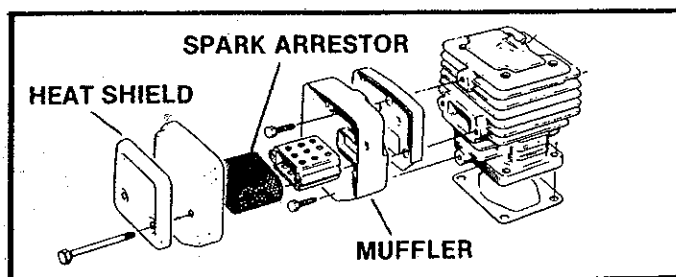

Figure 40
- Remove the muffler, baffles, and screen. Figure 40.